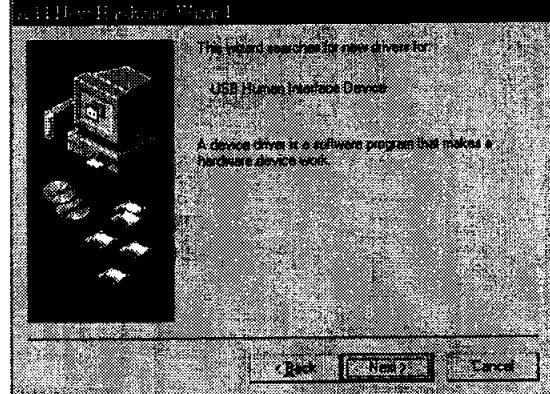
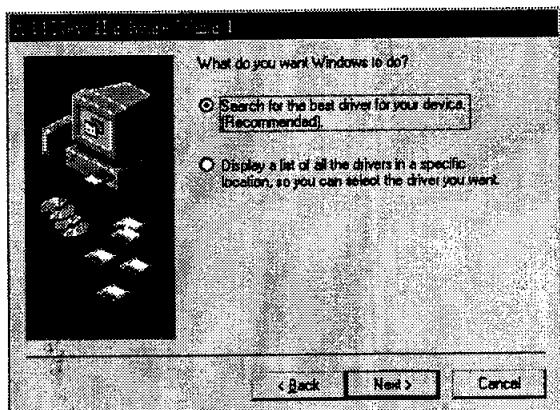
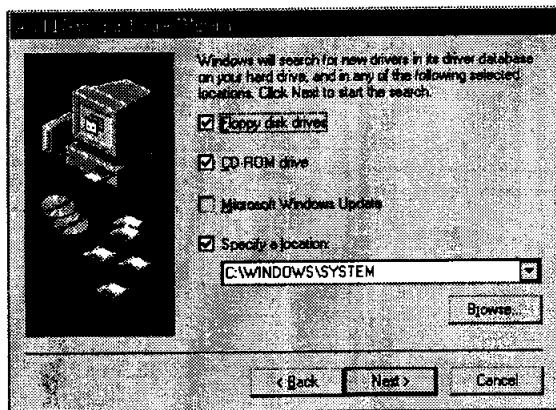

Figure 11
Figure 12
Figure 13
- (1) Insert Windows® 98 CD-ROM into your computer. Then, Figure 11 will appear.
- (2) Click "Next" on Figure 11 and Figure 12 will appear.
- (3) Click "Next" on Figure 12 and Figure 13 will appear.